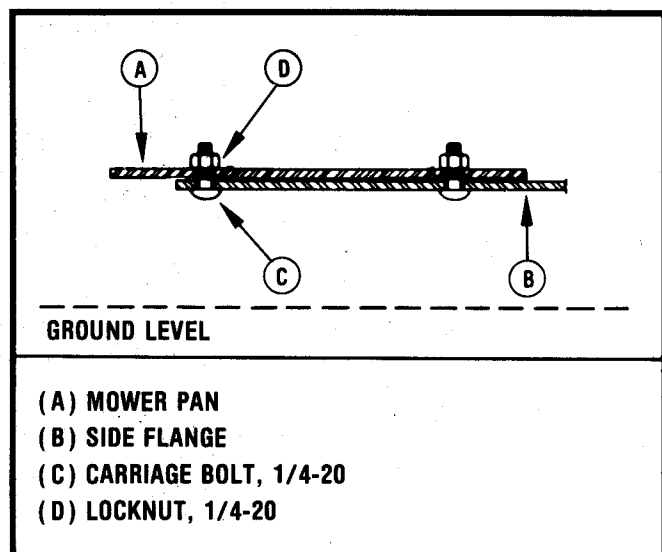
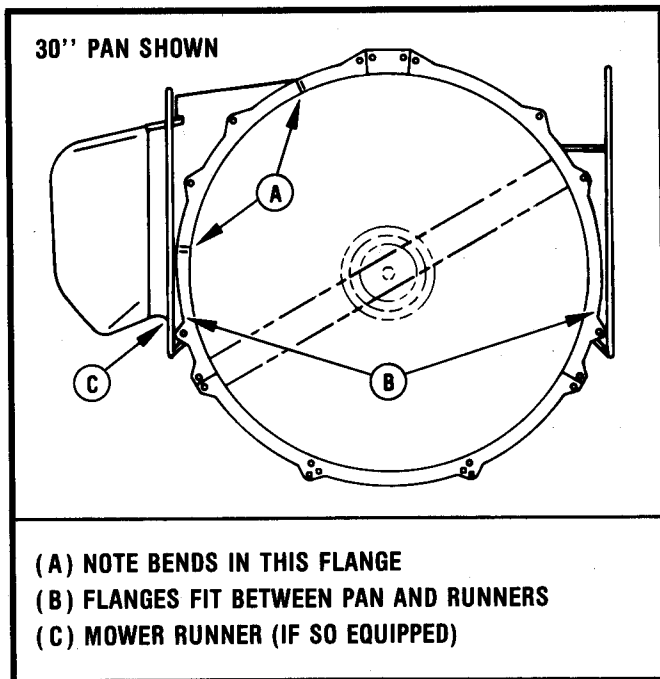

FIGURE 11-4
FIGURE 11-8
1. Install side flanges to mower pan using carriage bolts and locknuts, 1/4-20, as shown in Figure 11-4. At points indicated, loosen, and mount with mower runner hardware as indicated in Figure 11-2. For 30" pan see Figure 11-8.
- Carefully position the flange assembly on the mower pan so that the side flanges are positioned between the runners (if so equipped) and the mower pan bottom. The flange on the mower pan and the edges of the side flanges should fit flush at the front. See Figure 11-8.